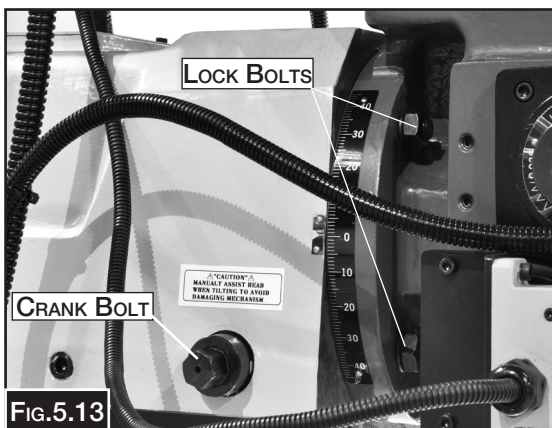

FIG.5.13
2. Loosen the four rotating lock bolts (two on each side of the ram.) (Fig. 5.13)
3. Use one hand to apply pressure to the head in the direction of tilt, then slowly rotate the crank bolt. Rotating this crank bolt will rotate the head to the side. (Fig. 5.13)